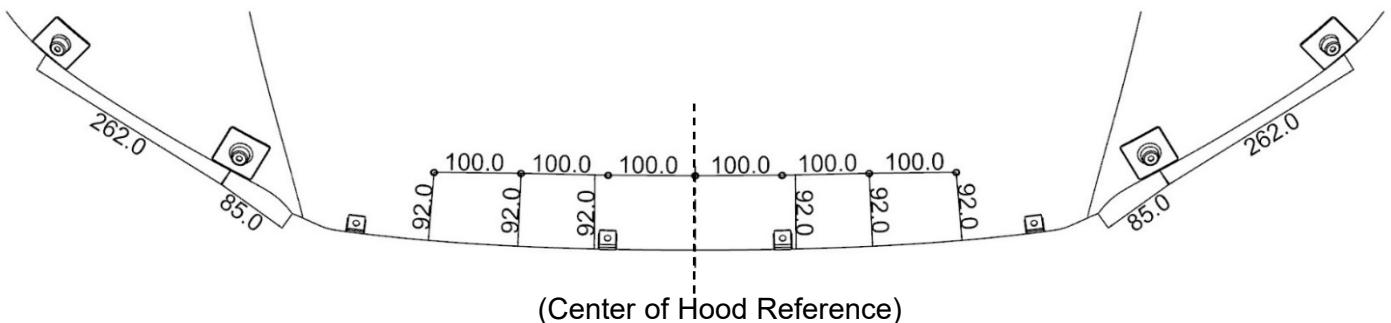

Fig 5
5. Install the (7) small bumpers in the locations shown. (Fig 5)